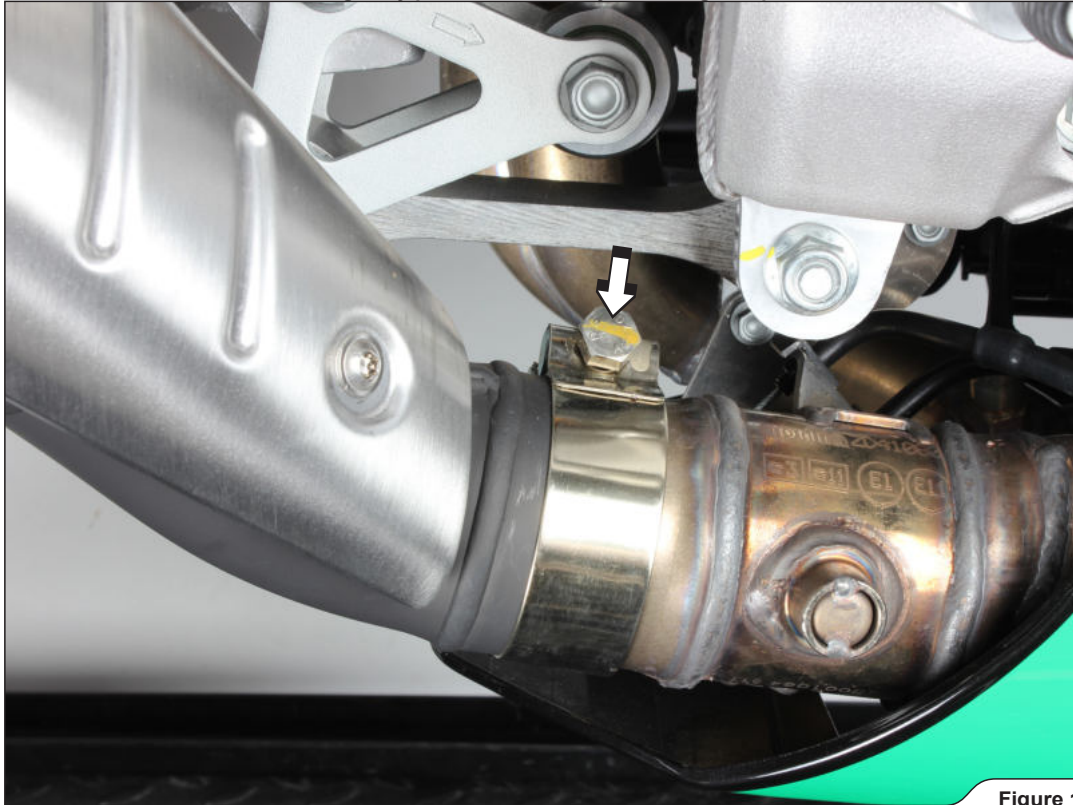

Figure 1
2. Unscrew the muffler hanging bracket bolt, loosen the clamp at the muffler-collector connection and remove the muffler off the motorcycle (Figure 1, 2).